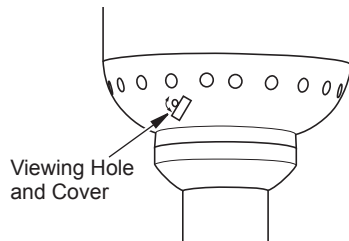

Figure 9 - Viewing Hole and Cover
- d) Release control knob and pilot should remain lit. **Note:** To visually check ignition of pilot, slide viewing hole cover to either side (see Figure 9).